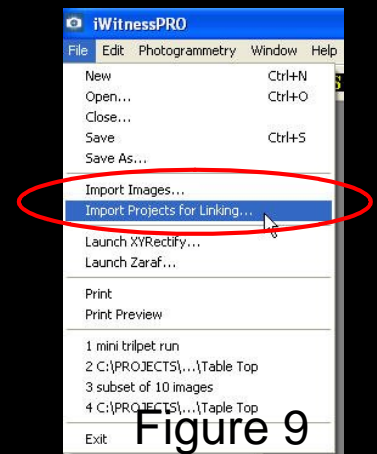

Figure 9
8. **Click on the iWitnessPRO short-cut** and start a new project and select **File + Import Projects for Linking...** - see Figure 9.